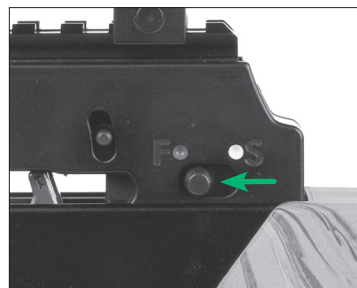

FIGURE 13
The safety is disengaged and the crossbow is ready to be cocked when the safety switch has moved from the (S)AFE position, under the white dot, to the (F)IRE position, under the red dot, as illustrated in Figure 13.
With the crossbow aimed in a safe direction and an arrow loaded, slide the safety switch (Part 20) forwards until you hear and feel the safety switch click off. The safety is disengaged and the crossbow is ready to be cocked or fired when the safety switch has moved from under the (S)AFE position and the white dot, to under the (F)IRE position and the red dot, as illustrated in Fig. 13 on page 4.
**CAUTION:** DO NOT USE THE COCKING PREPARATION SWITCH (PART 21) TO DISENGAGE THE SAFETY IF THE CROSSBOW IS COCKED OR YOU WILL TURN OFF THE ANTI-DRY FIRE MECHANISM. ONLY USE THIS SWITCH TO DISENGAGE THE SAFETY IF THE CROSSBOW IS SET TO (S)AFE AND YOU WANT TO COCK THE CROSSBOW.